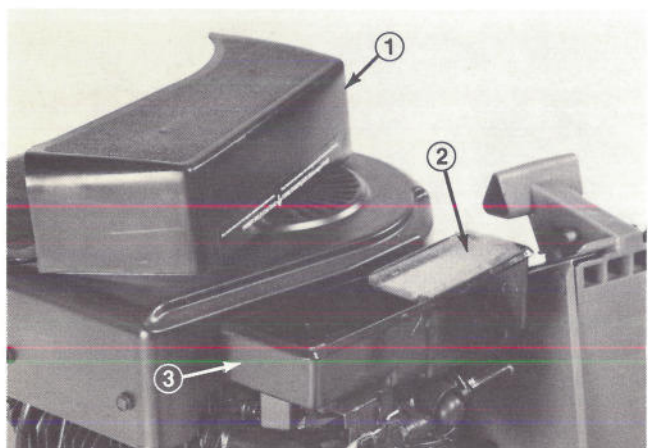

Figure 30
3. Look at bottom of air cleaner element (Fig. 30). If it is dirty, the element must be cleaned.
Note: Take care not to allow dirt to enter air cleaner body (Fig. 30).
D. Place element into the air cleaner body (Fig. 30).